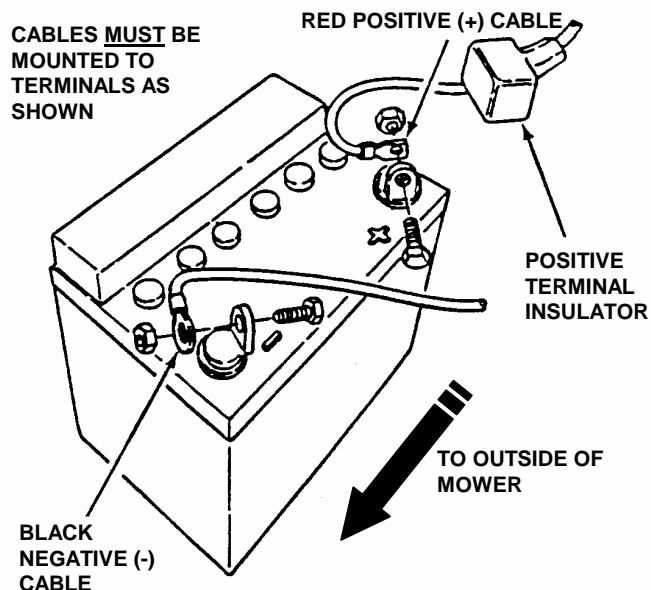

FIGURE 10
- (b) Battery cables **MUST BE SECURED TO BATTERY TERMINALS** as shown in Figure 10, using the 1/4" screws, that are mounted on terminals, and lock nuts from the hardware bag.
- (c) Install positive (+) cable first. Place the positive (+) terminal insulator over positive terminal and cable. Install negative (-) cable last after positive terminal insulator has been installed. See Figure 10.